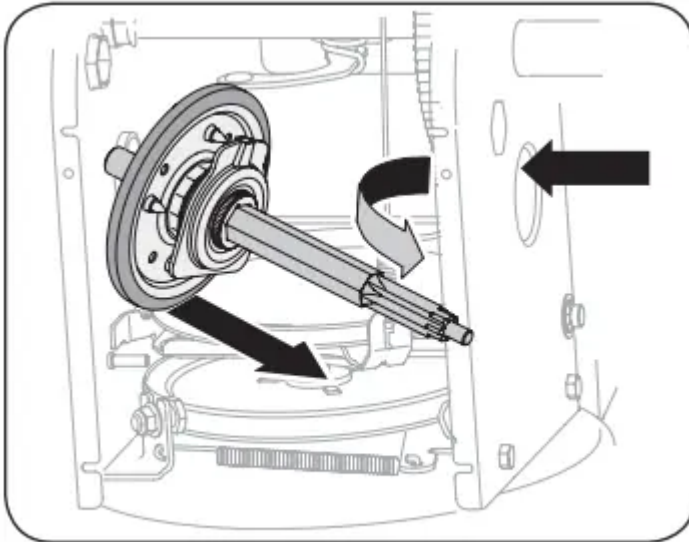

Figure 74
7. Carefully position the hex shaft downward and to the left before carefully sliding the friction wheel assembly off the shaft. See Figure 74. NOTE: If you're replacing the friction wheel assembly as a whole, discard the worn part and slide the new part onto the hex